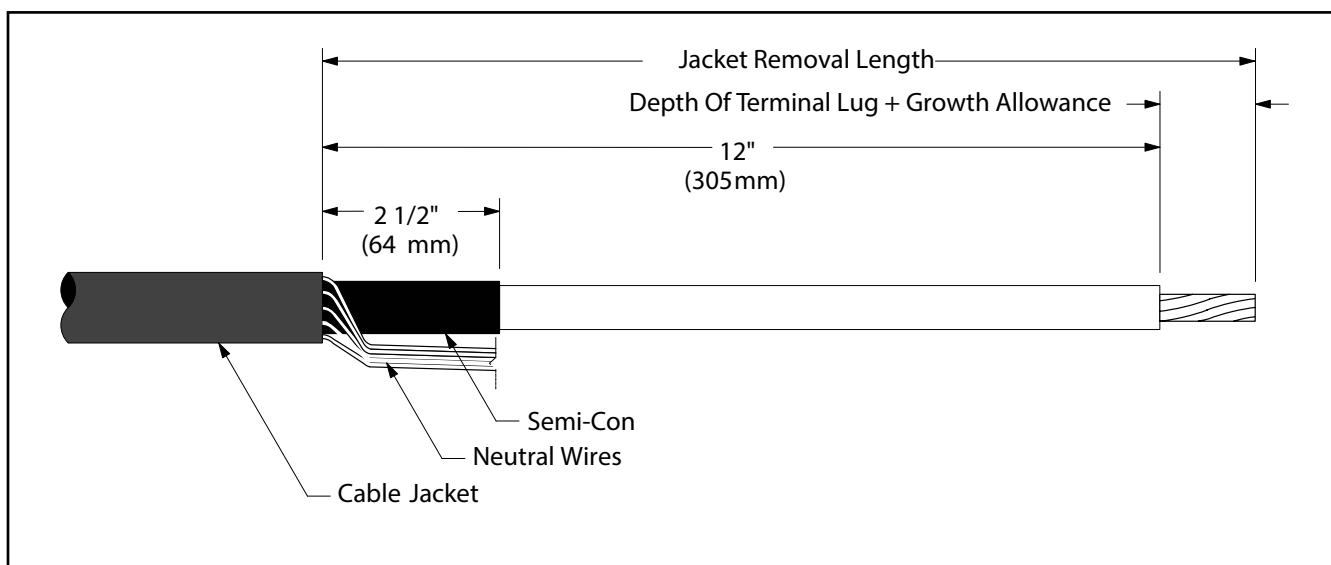

Figure 1
- 2.3 Prepare cable using dimensions shown in Figure 1. **BE SURE TO ALLOW FOR DEPTH OF TERMINAL LUG.**